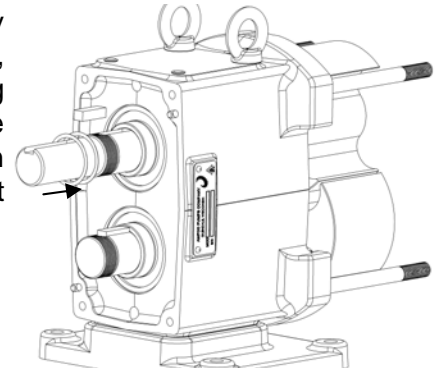

Figure 57: Gear Shim Installation
9) If the clearances are incorrect they can be adjusted by shimming one gear. Remove the gear lock nuts and gears, and add gear shims to one shaft (Figure 57). The gear being shimmed is determined after checking the clearances, some trial and error may be necessary. Once the shims are in place reassemble the gears and ensure the correct clearances are met. Remove the rotors from the shafts.